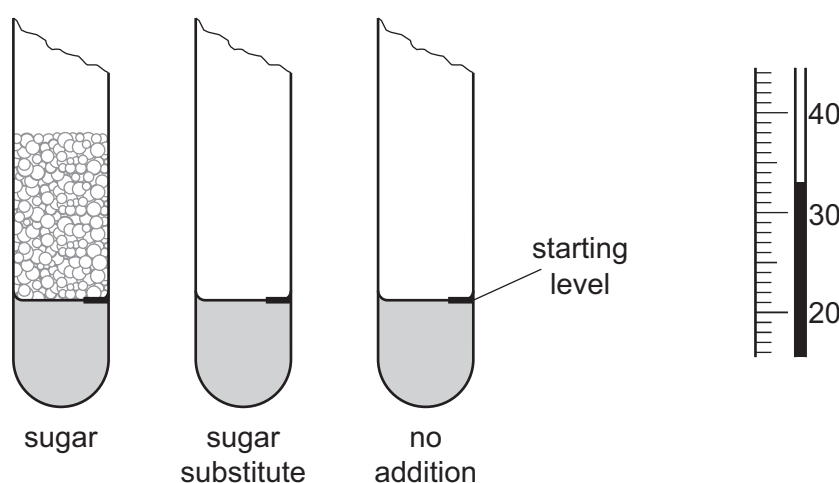
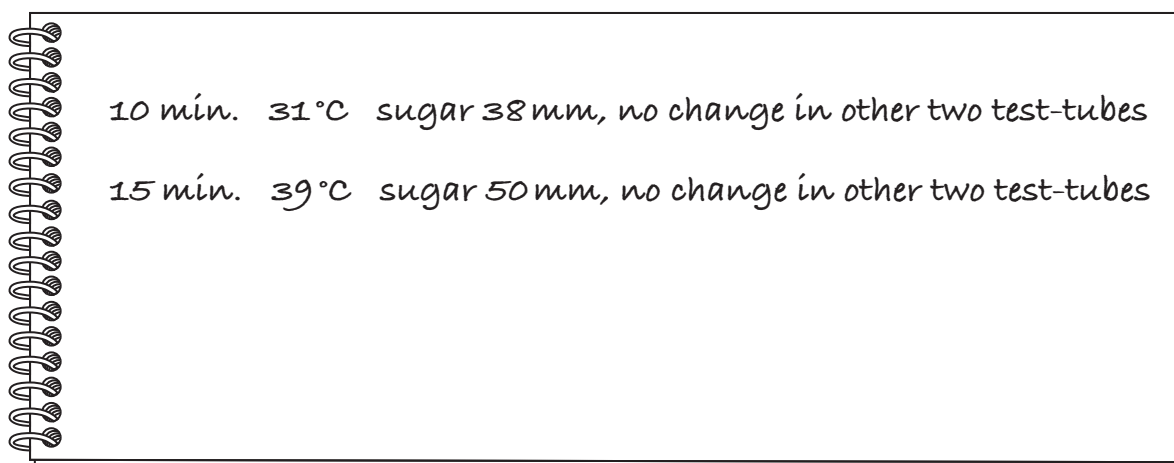

Fig. 1.1
Fig. 1.2
Fig. 1.1 shows the lower parts of the test-tubes at 5 minutes and the water-bath thermometer reading at 5 minutes.
Fig. 1.2 shows the results for 10 and 15 minutes recorded in the student's notebook.
- Using Fig. 1.1, measure the distances moved by the yeast mixtures from the starting levels in the three test-tubes and record them. Read the temperature shown on the water-bath thermometer in Fig. 1.1 and record it.
- Use the information in Fig. 1.2 to complete Table 1.2.
(iv) Use the information in Fig. 1.1 and Fig. 1.2 to evaluate the student's control of the water-bath temperature.
- (ii) The apparatus used in this investigation is shown in Fig. 1.1. Suggest a piece of apparatus that could have been used in this investigation to directly measure the volume of the mixture. Describe how you would determine the increase in volume at each time interval using this apparatus.